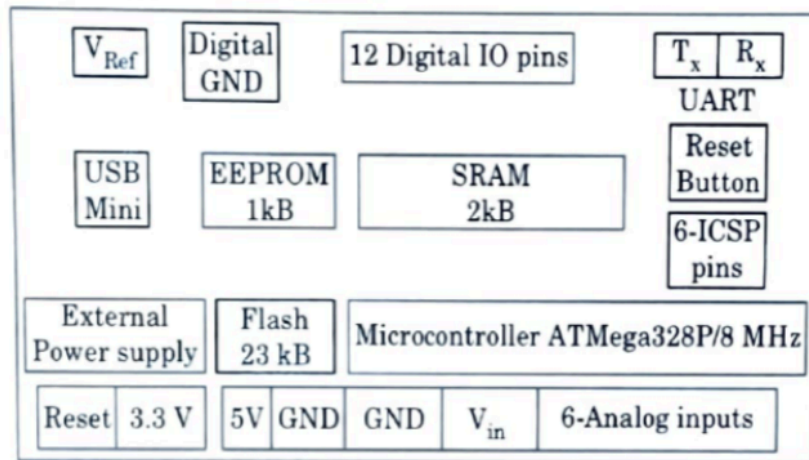

Fig. 2.17.1.
- Architecture of Arduino Board (Uno Example from Fig. 2.17.1, Page 12, Doc: Unit 2):